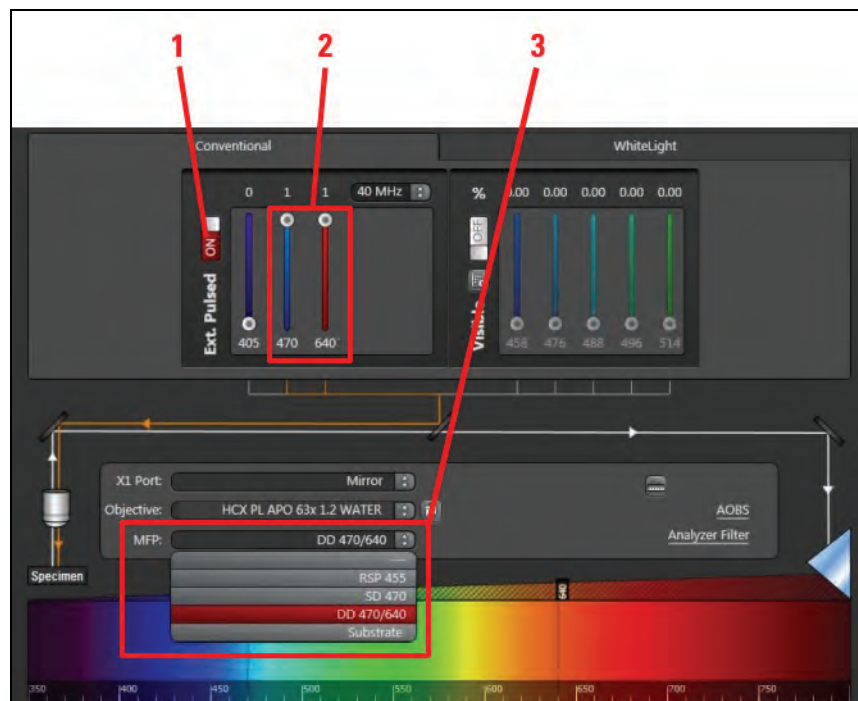

Figure 170: Settings for using pulsed VIS lasers as excitation source
2. Open the shutter for pulsed lasers (**Figure 170, item 1**).
3. Activate the desired laser by moving the corresponding slider upwards (**Figure 170, item 2**).